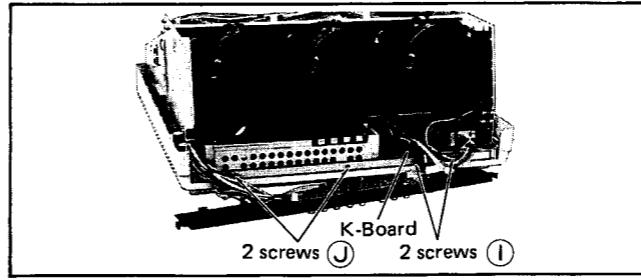

Fig. 10
- Remove 2 screws **I** in fig. 10.
- Remove 2 screws **J** in fig. 10.